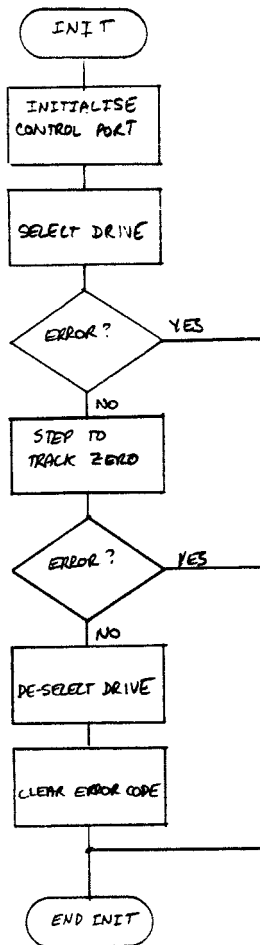

Figure 3.8 Flowchart for INIT
3.5./ INIT routine (figure 3.8)